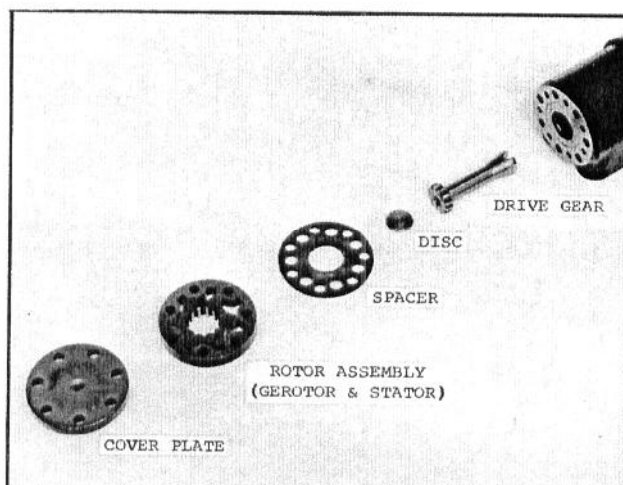

FIG. 22 — METERING END COMPONENTS
b. Lightly stroke both sides of the gerotor, stator and spacer, Fig. 22. Lightly stroke the 14-hole end of the housing and the flat side of the cover plate.
18. Install input shaft and secure in place with retaining ring. Reposition unit in vise so the 14-hole end is up. Clean upper surface and place spacer, Fig. 22, on top of pump.
20. Place the disc (Fig. 22) on top of the drive gear. If disc does not drop flush with gerotor surface, cross slot in drive gear is not in line with cross pin in housing.